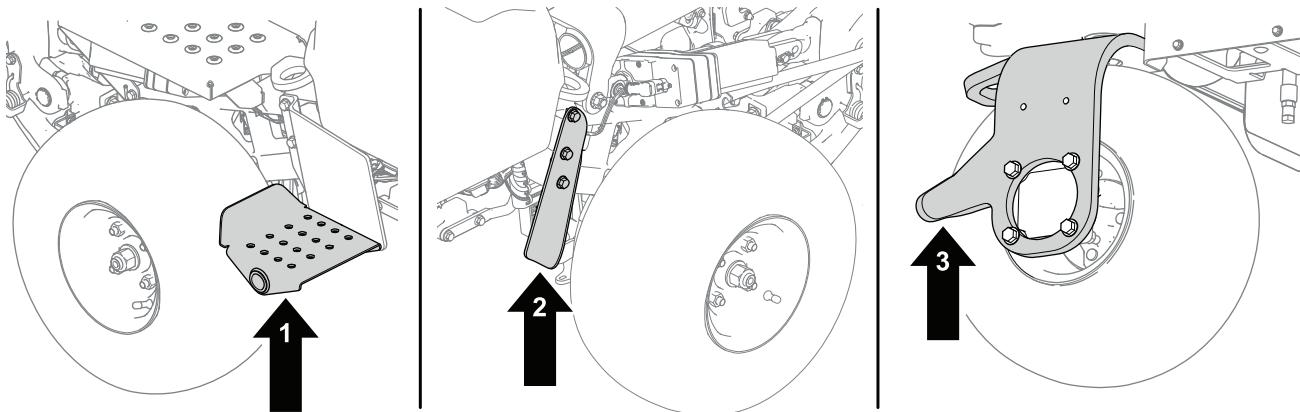

Figure 34
1. Position a jack at the desired jacking point (Figure 34):